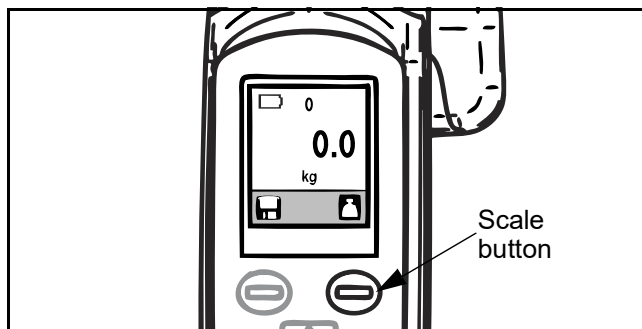

Fig. 66
- 1) Press the scale button to obtain a zero reading on the display (see Fig. 66).